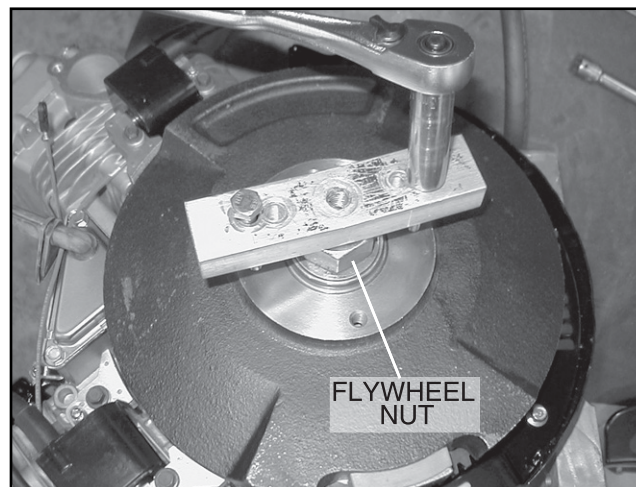

Figure 2-5. Removing Flywheel
6. Tighten puller screws equally until flywheel loosens, Figure 2-5.